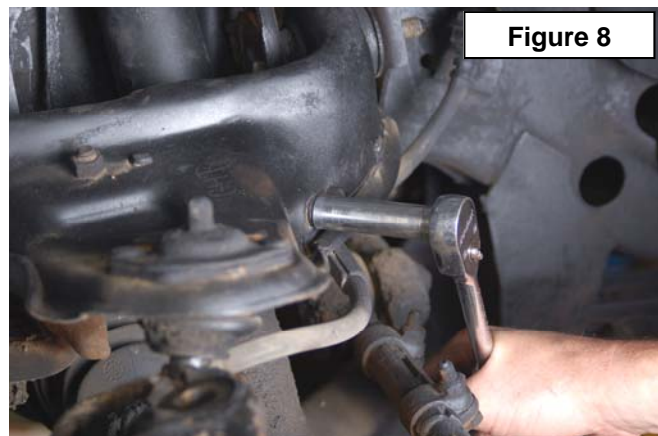

**Figure 6**
7. Remove the cotter pin on the knuckle and remove the ball joint nut using 22mm wrench. **See Figure 6.**